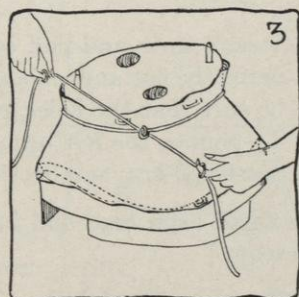

FIG. 3.
- d. Tie a cord around the felt at the base of the headsize lift of the block so that the felt will be tight at the headsize (see Figure 3).